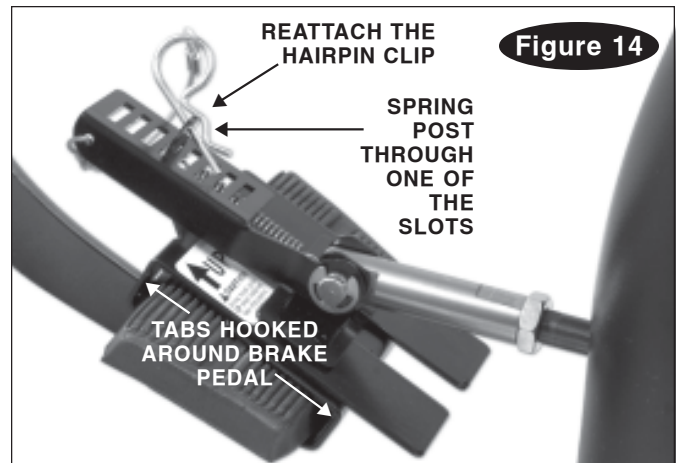

Figure 14
10. Fit the pedal clamp onto the brake pedal, so that all four tabs are hooked around it (Figure 14). Then, release the spring post.
Make certain that all four tabs on the pedal clamp are securely hooked around the brake pedal (Figure 14). If the tabs are loose, the pedal clamp can rotate out of position and hold the brake pedal down, even when the 9700 is not activated, which will cause brake damage or other consequential, non-warranty damage.
11. Swing the slotted arm back over the spring post, fit the spring post through one of the slots, and reattach the hairpin clip (Figure 14).